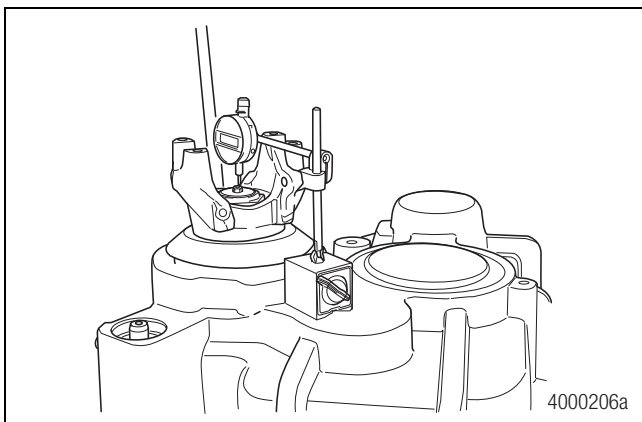

Figure 7.28
3. Use a suitable dial indicator setup and pry UP on the yoke to determine bearing end play. End play should be 0.002-0.004" (0.051-0.102 mm). To obtain a consistent reading, perform this operation two or three times. Record the reading for this shaft. Figure 7.28.